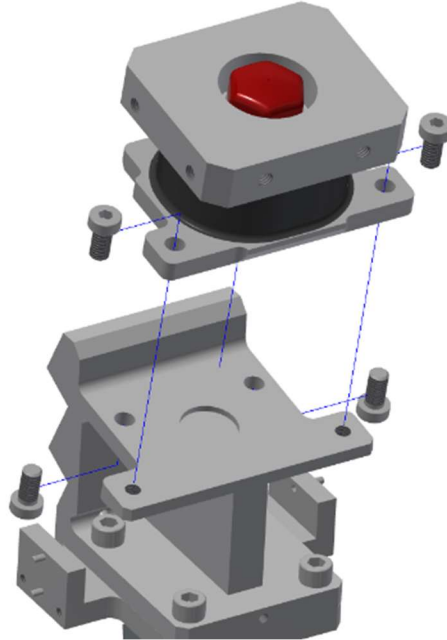

Figure 6-44. Upper flex joint assembled to lower thoracic spine assembly
- 6.3.13 Attach the Upper Spine Assembly (474-3240) to the Lower Spine Box Assembly (474-3101-A) using four M6 X 1 X 12 LG. LHCS (Figure 6-44). Install the front two LHCS from above and the rear two LHCS from the bottom. The flex joint must be oriented with the shape of the bottom plate matching the top of the Lower Spine Box (474-3101-A).